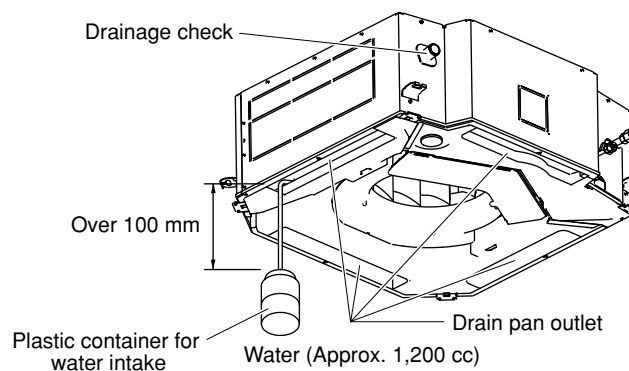

Fig. 3-59
- (1) Connect power to the power terminal board (R, S terminals) inside the electrical component box.
- (2) Slowly pour about 1,200 cc of water into the drain pan to check drainage. (Fig. 3-59)
- (3) Short the check pin (CHK) on the indoor control board and operate the drain pump. Check the water flow through the transparent drain pipe and see if there is any leakage.
- (4) When the check of drainage is complete, open the check pin (CHK) and remount the tube cover.